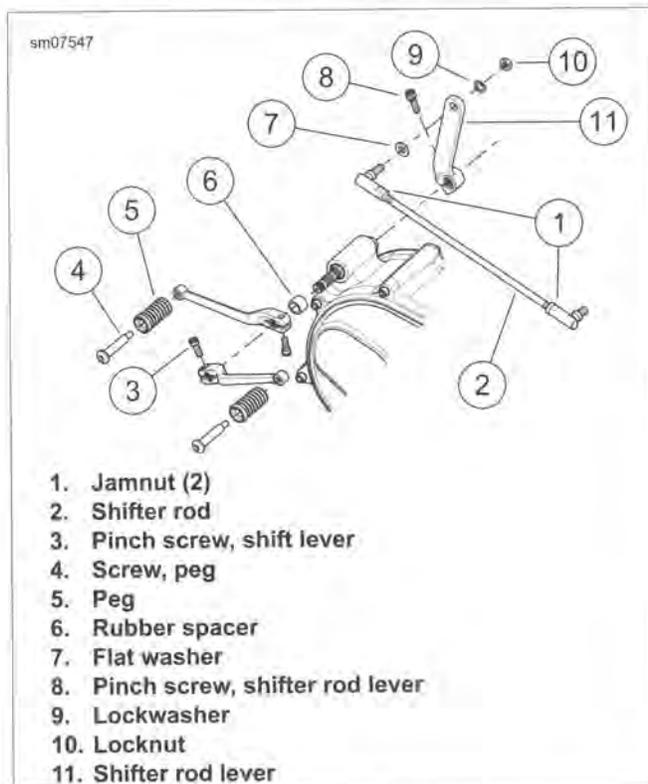

Figure 6-2. Shifter Linkage
1. See Figure 6-2. Remove nut (10), lockwasher (9) and flat washer (7) to free front end of shifter rod from inner shift arm.
2. Loosen jamnuts (1) and adjust rod (2) as necessary.
4. Tighten locknut (10) to 70-90 in-lbs (7.9-10.2 Nm).
5. Tighten jamnuts (1) to 80-120 in-lbs (9.0-13.6 Nm).
1. See Figure 6-2. Mark position of levers in relation to shaft.
1. See Figure 6-2. Remove nut (10) and lockwasher (9) to free linkage.